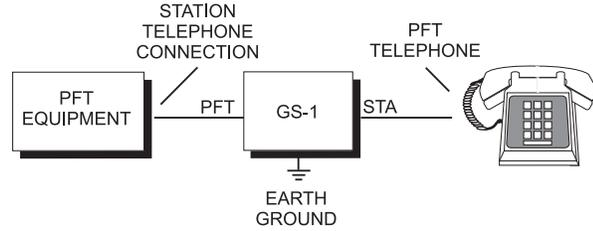

Figure 1 Installation with PFT Equipment.
3.9 INSTALLATION WITH PFT EQUIPMENT Refer to Figure 1 when reading this section. The GS-1's PFT connections are connected to the station telephone connections on the associated PFT equipment. The GS-1's STA connections are